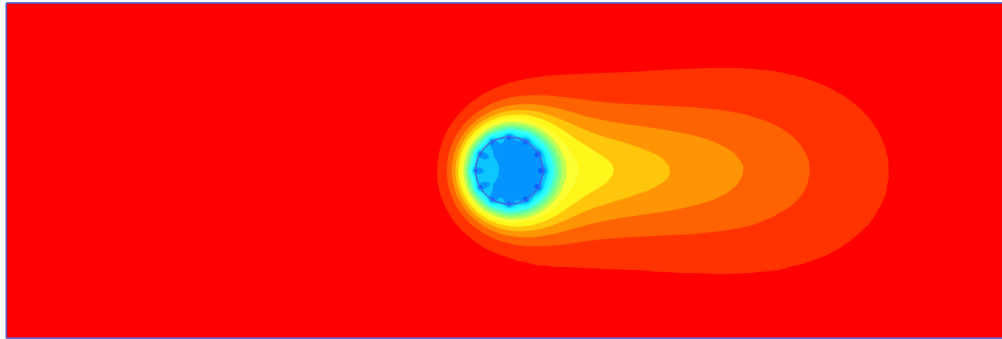

Figure 247: Temperature distribution for transient phase
3. Figure 247 (on page 279) shows the spatial distribution of the temperature for transient calculation in the final step. Note that the element contours have been switched off to better show that the temperature of the soil inside the tunnel is below freezing.